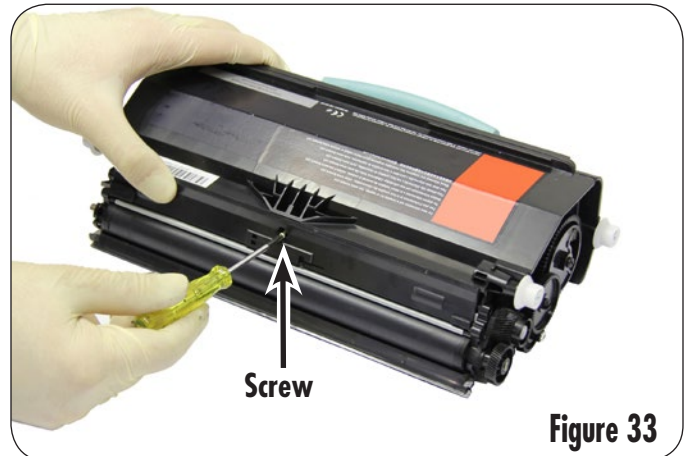

Figure 33
13. Install the screw into the doctor bar cover as shown in Figure 33.